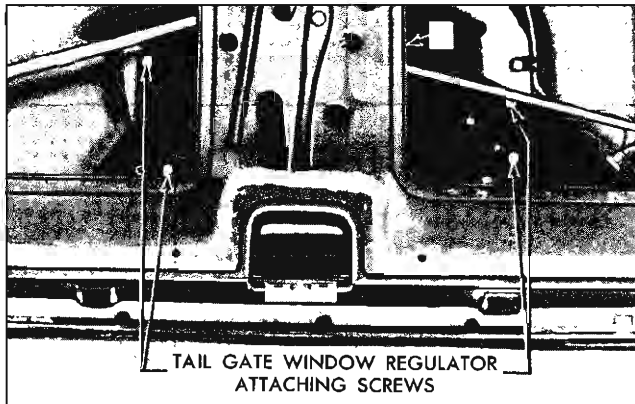

Fig. 5-11 Window Regulator
NOTE: To open the tail gate on styles with electric windows when window is removed, depress tail gate lock remote control locking lever through access hole at location A (Fig. 5-11) and at the same time operate the tail gate remote control inside handle.
2. To correct a condition where the glass is "cocked" in the glass run channels, loosen window regulator attaching screws (Fig. 5-11), rotate regulator clockwise or counterclockwise, as required, to eliminate "cocked" condition.
2. Detach tail gate lock remote control right connecting rod from remote control at A (Fig. 5-11).
4. Remove regulator attaching screws through access holes at locations shown in Fig. 5-11. Remove regulator through large access hole.